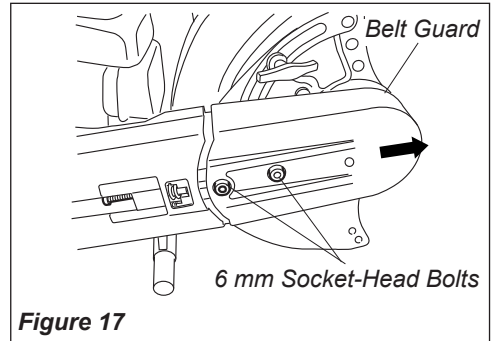

Figure 17
3. Using a 6 mm hex wrench, remove the two belt guard bolts and slide the belt guard forward to remove. See Figure 17.